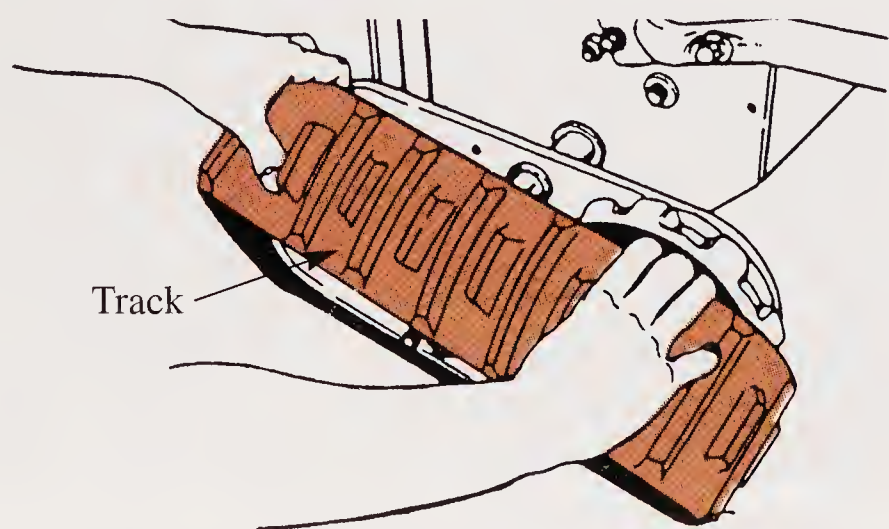

Figure 20-25. Rolling the track off the idler and drive wheel assembly after releasing tension. (MTD Products, Inc.)
3. Roll the track off the idler and drive wheel assembly as shown in **Figure 20-25**.